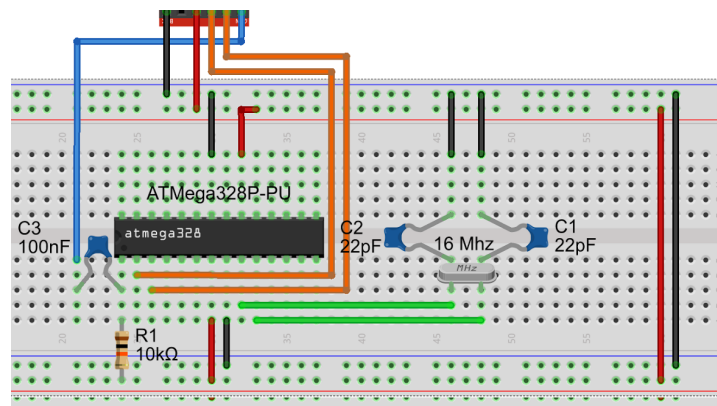

Figure 4. Arduino usb2serial Light Adapter Wiring
2. Wiring the Arduino usb2serial Light Adapter to the Atmega328p (Figure 4.).